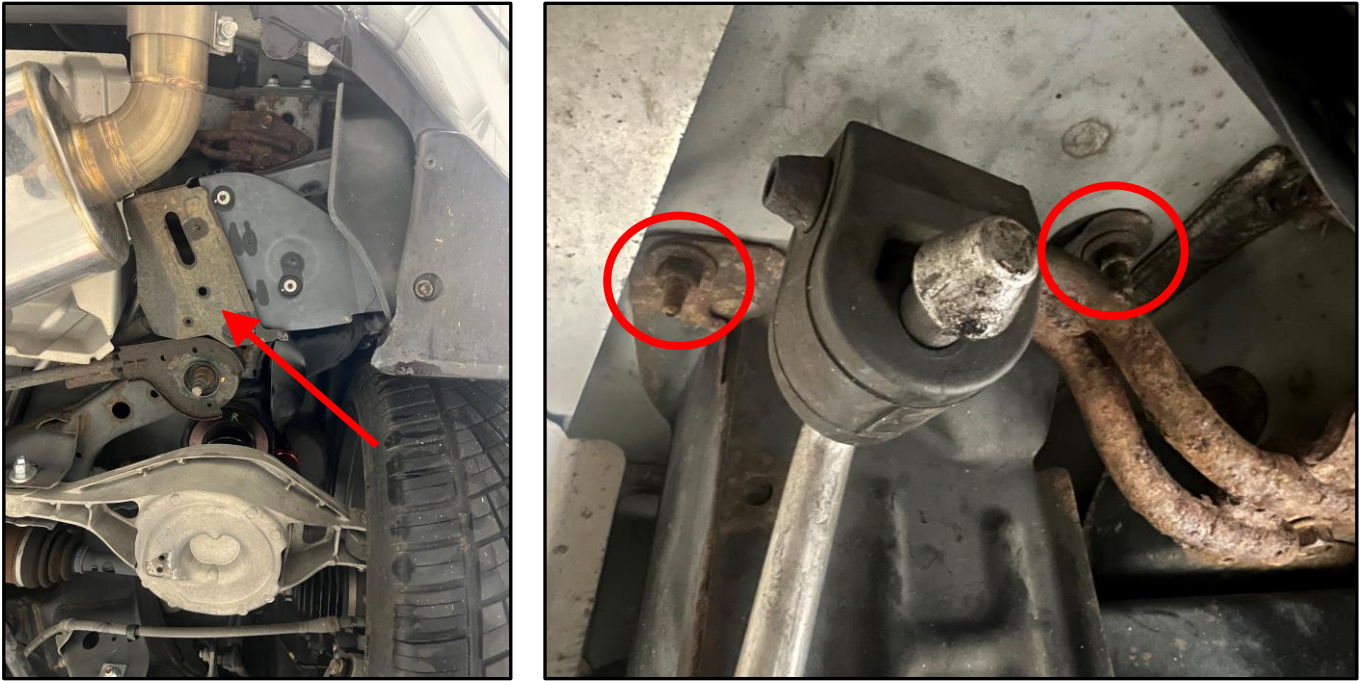

Figure 6
9. Check for clearance with the EVAP Canister Heat Shield. This may contact the Exhaust and cause rattling. Remove the (3) three nuts securing the shield to remove it. *Figure 6.*